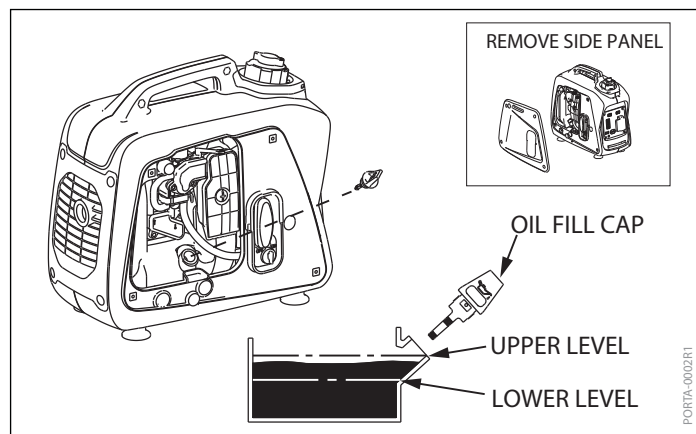

FIGURE 3
5. Reinsert dipstick without tightening. **SEE FIGURE 3**